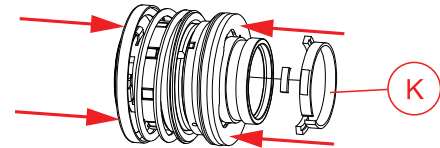
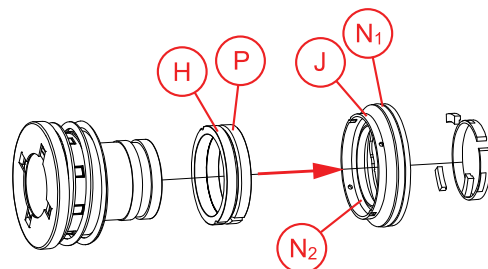

Figure 12-13: Compress Seal
Figure 12-15: Remove Stationary Seat / Elements
1. Follow Section 12.3.2 steps 1 through 3 to install the seal plate (184) if not already.
2. To install the mechanical seal (189) with a solid shaft (106) the sleeve (126) will need to be removed. Begin compressing the seal by pressing on the stationary seat (J), this will break the shear ring (K), Figure 12-13. This will take some force, use of a hydraulic press may be needed.
3. Once the shear ring (K) is broken, remove the shear ring (K) from the sleeve (126) and the remaining shear ring (K) pieces from inside the stationary seat (J). Take extreme care not to break or cause stress on the rotating element (H) and stationary element (P). If the two elements (H,P) stay together, do not separate the seal faces.
4. Remove the stationary seat (J) and O-rings (N₁, N₂) from the sleeve (126) and set aside. Remove the stationary element (P) and rotating element (H) as a unit to protect the machined seal faces, Figure 12-15.